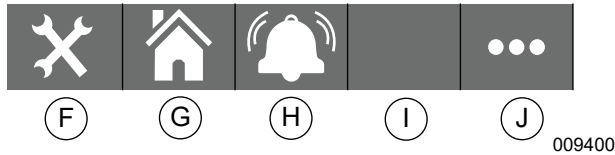

Figure 3-7. Second Set of Buttons
See **Figure 3-6**. The Bottom Banner is displayed on every page and is made up of menu buttons. Each menu button navigates to a new page. The “More” button (E) brings up additional menu buttons, shown in **Figure 3-7**.